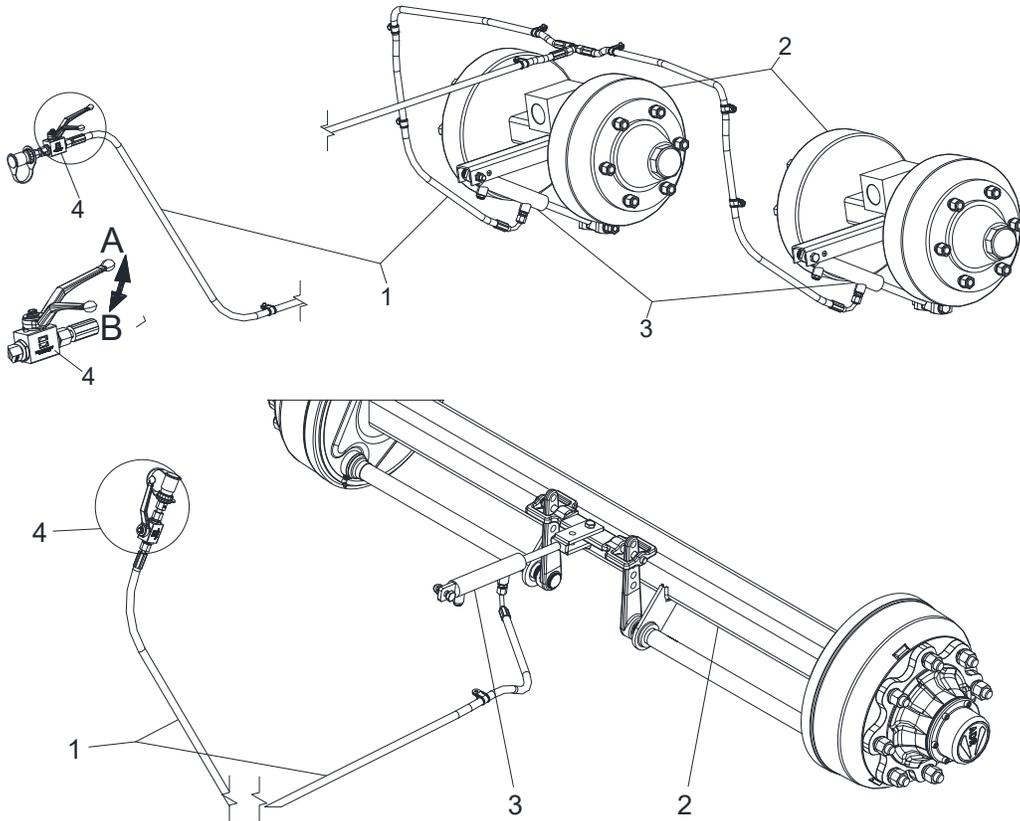

Fig. 20 Hydraulic brake system
- Brake line (Fig. 20/1)
- Brake axle with drum brake (Fig. 20/2)
- Brake cylinder (Fig. 20/3).
- Block ball valve (Fig. 20/4)